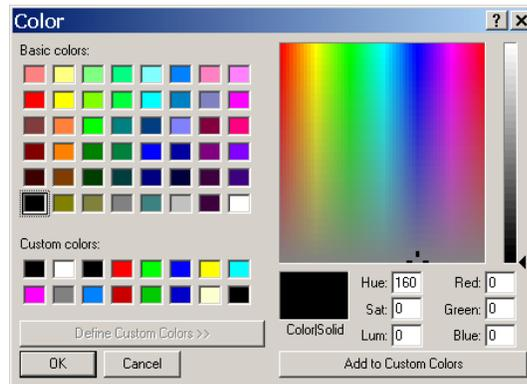

Figure 16-4. Symbol Color Dialog
- STEP 3:** Right-click on the large colored area on the left side of the *Choose Symbol* dialog. As shown in Figure 16-4, the *Color* dialog appears.